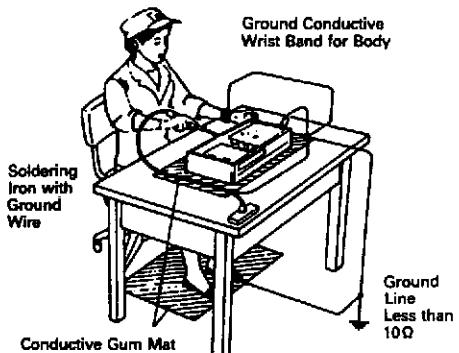

Fig. 3
1. Remove the CD mechanism assembly by refering to the "EXPLODED VIEW II" on page 31 (See Fig. 3).